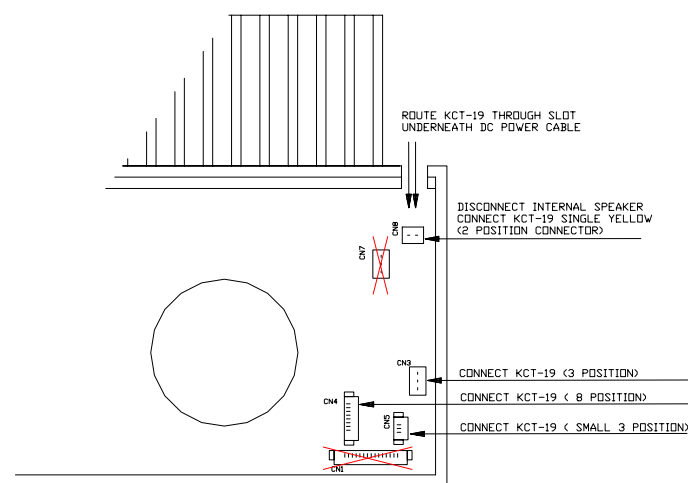

FIGURE 1. KCT-19 ACCESSORY CABLE
3. Connect the KCT-19 Accessory Cable as shown in Figure 1.